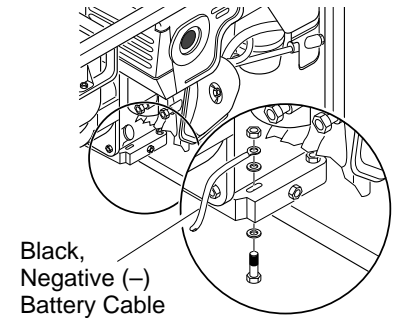

Figure 9 - Connecting Black, Negative (-) Battery Cable to Engine Block (Model RGH7500IE Shown)
2. Attach the black, negative (-) battery cable to the engine block. Use the bolt, nut, and two washers provided with the battery cables. Use long mounting hole on opposite side of engine from starter solenoid. Attach cable as shown in Figure 9.